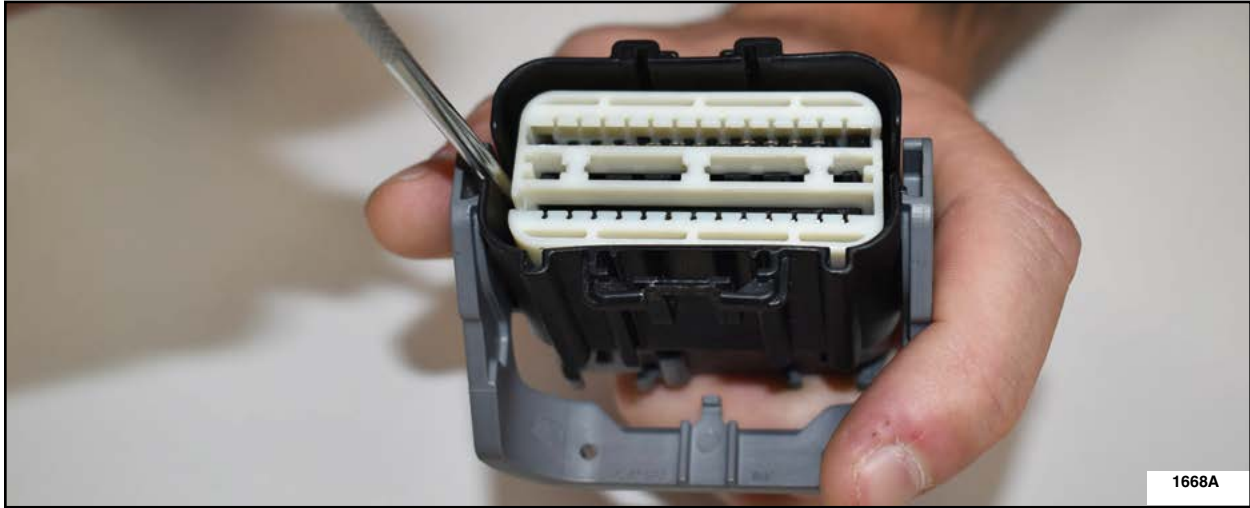

FIGURE 20
- **Female Side Pigtail**, using a 90° pick ensure that the white pin terminal locking tab is positioned up, but Not removed, in the *new* female pigtail connector hard shell as shown in Figure 20.